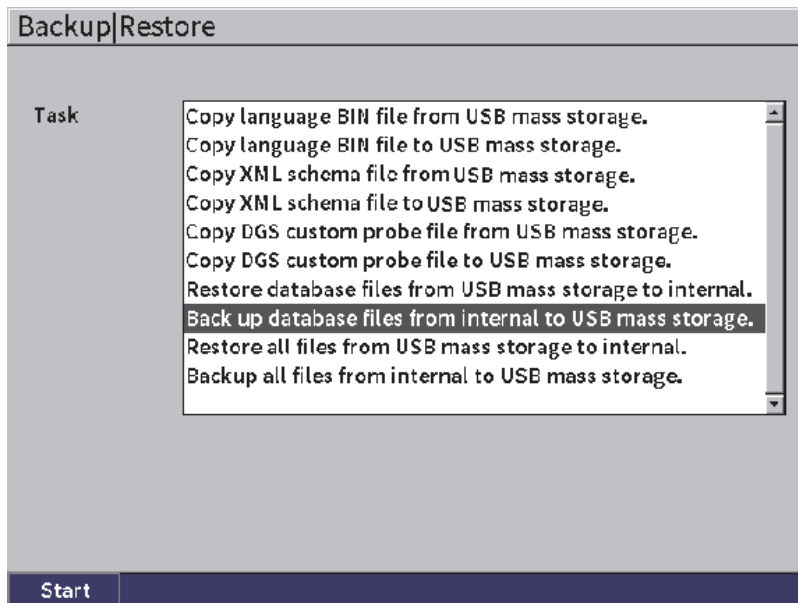

Figure 9-24 Backup | Restore setup page
1. Open the **Backup | Restore** setup page (see Figure 9-24 on page 148).